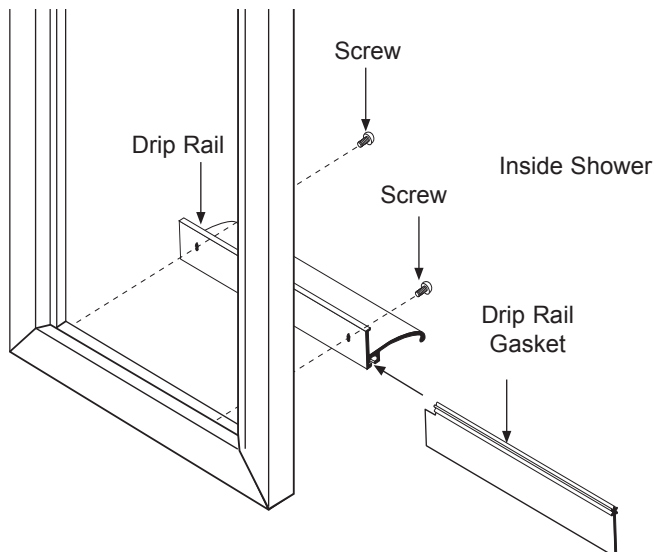

Figure 5
- E. Next, use the 7/64" Drill Bit and, using the pre-drilled holes, *carefully* drill two holes in the Bottom Rail (#5). Using the remaining two #6 x 1/4" "B"-Point Screws (#13), secure the Drip Rail (#9) with Drip Rail Gasket (#10) to the Door Panel. (See Figure 5).